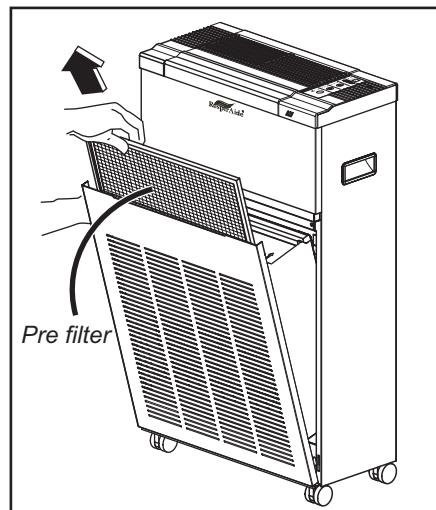

Fig. 2.1-1 Pull out the pre filter.
-Hold the front panel (Air intake) upper portion (Left and right side) and pull the front panel toward you (Fig. 2.1-1).